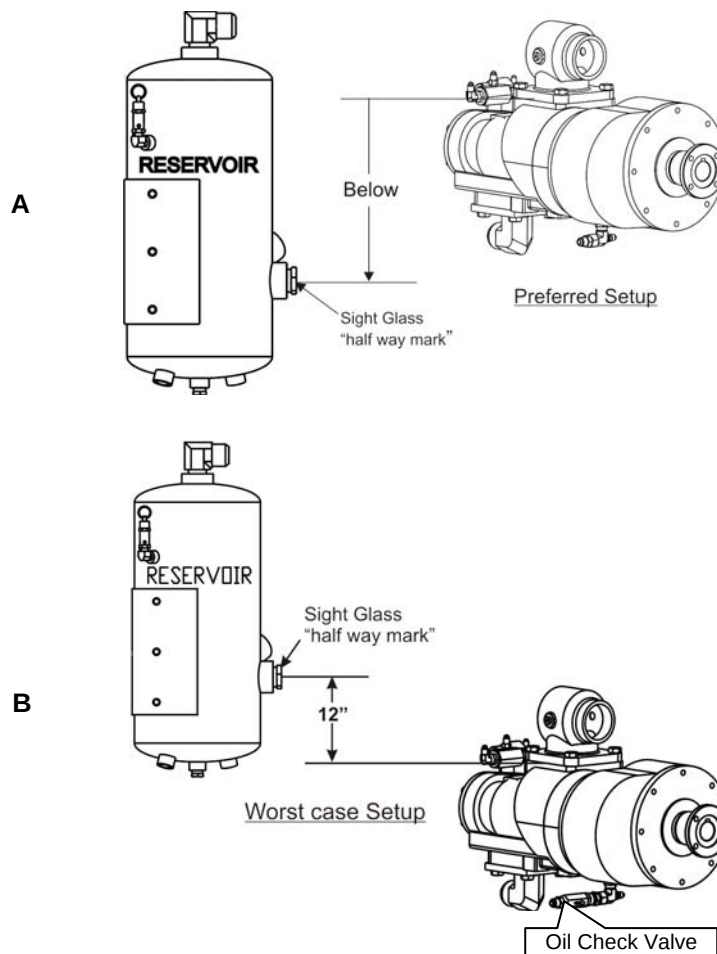

Figure 5 Sump height to Compressor
- The sump (oil/air reservoir) can be mounted at the same level as the compressor, or below it. If the sump (oil level) must be mounted above the compressor (12 inches maximum) above the base of the air inlet, contact Waterous for the correct check valve to prevent compressor flooding. (Refer to Figure 5)